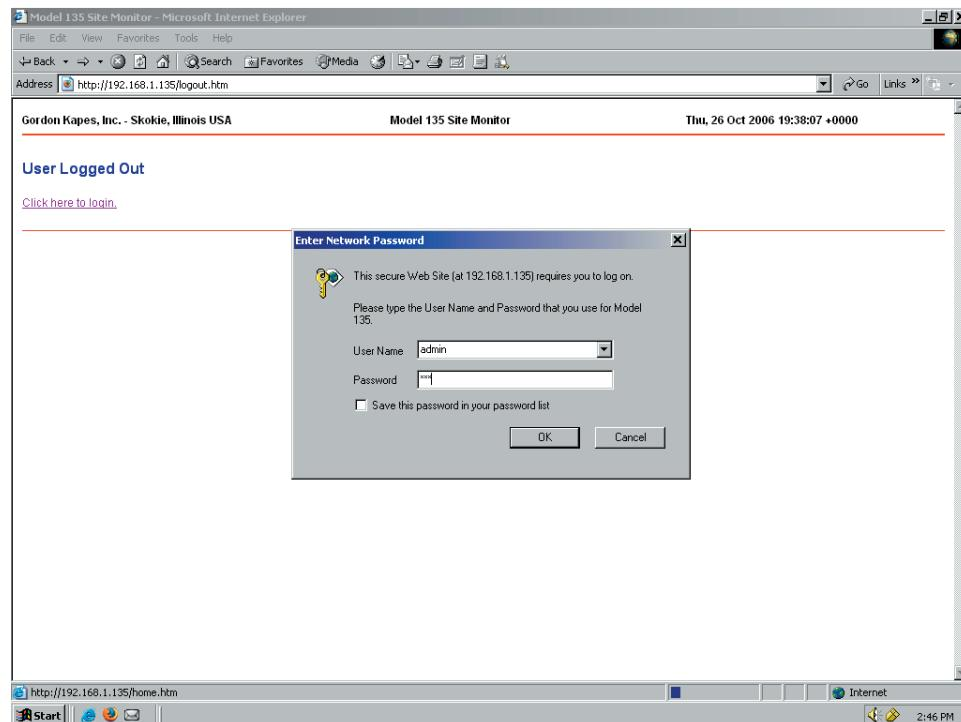
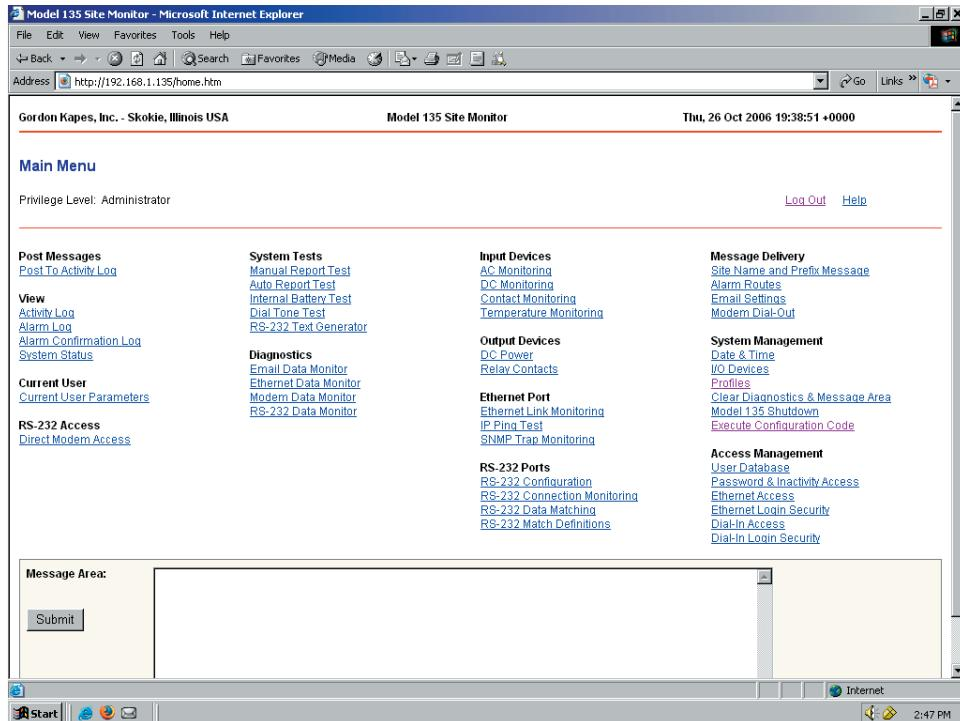
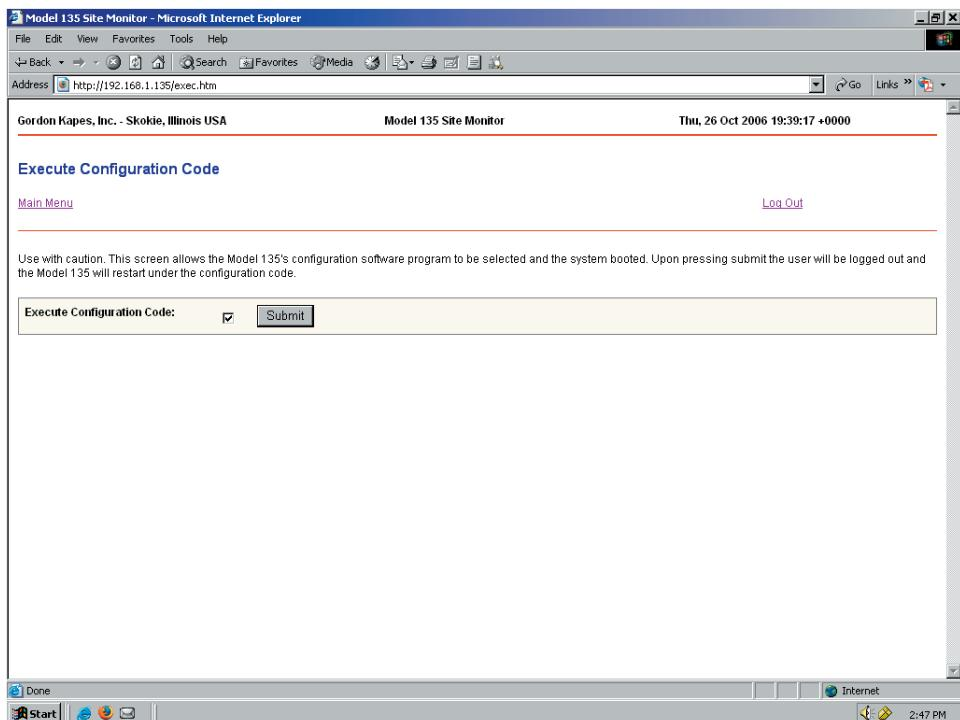
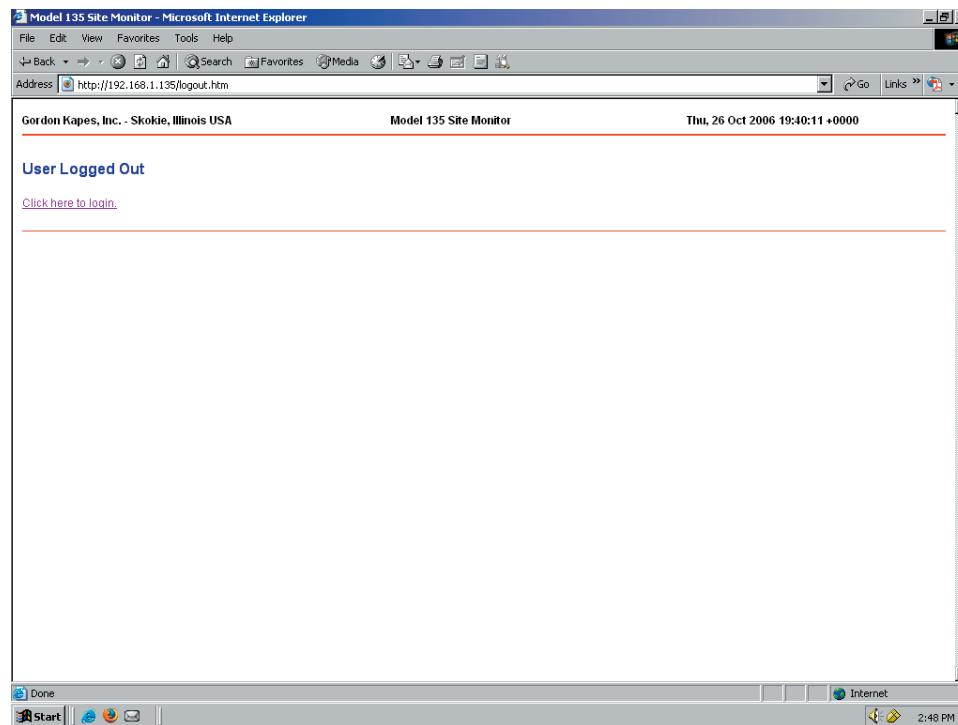

Figure 4-1. Model 135 Enter Network Password Screen
Figure 4-2. Model 135 Main Menu Screen
Figure 4-3. Model 135 Execute Configuration Code Screen
Figure 4-4. Model 135 User Logged Out Screen
Step 1: Open your browser and enter the following default URL address **http://192.168.1.135** to access the Model 135 Site Monitor. An Enter Network Password screen should appear requesting a User Name and Password (Figure 4-1). Enter/type the default User Name of **admin** and the default Password of **135** (Figure 4-1). Select/click OK. This login will bring you to the Main Menu of the Model 135 Site Monitor Application Program (Figure 4-2).
Step 2: Under the System Management column, select/click the Execute Configuration Code item (Figure 4-2). This will bring up the Execute Configuration Code screen (Figure 4-3). Select/click the box for Execute Configuration Code which will place a check mark within the box. Once the check mark is visible within the box, then select/click the Submit button (Figure 4-3). These actions will shutdown the Model 135 Application Program and bring you to the User Logged Out screen (Figure 4-4).